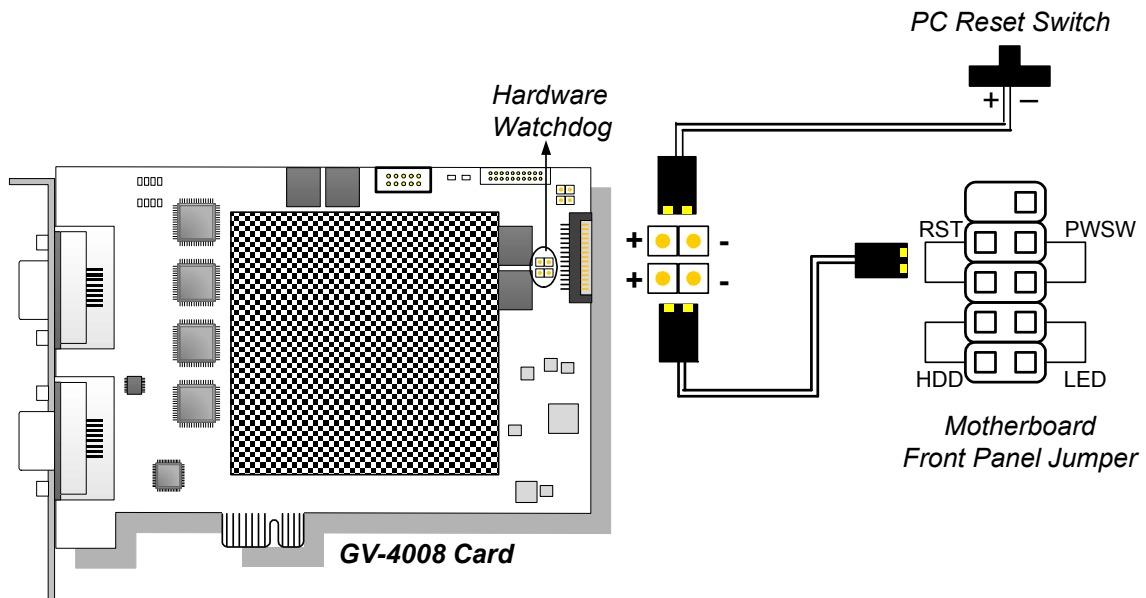

Figure 1-18
- **Hardware Watchdog Connection:** Connect the supplied Hardware Watchdog Jump Wire to the Master Card only (Figure 1-18).